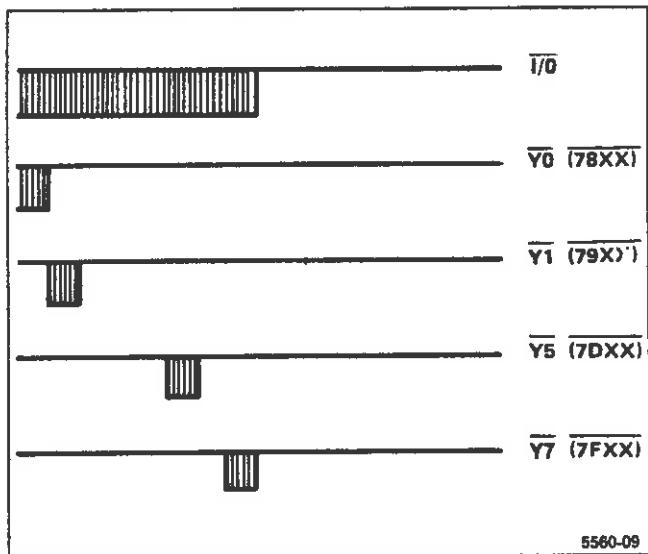

Figure 6-37. Chip selects Y0, Y1, Y5, and Y7 in relation to I/O.
**Processor Address Decoder** — Address decoder U3035 on the Processor board decodes several chip-selects. Y0, Y1, Y5, and Y7 are shown in relation to the I/O line in Figure 6-37.